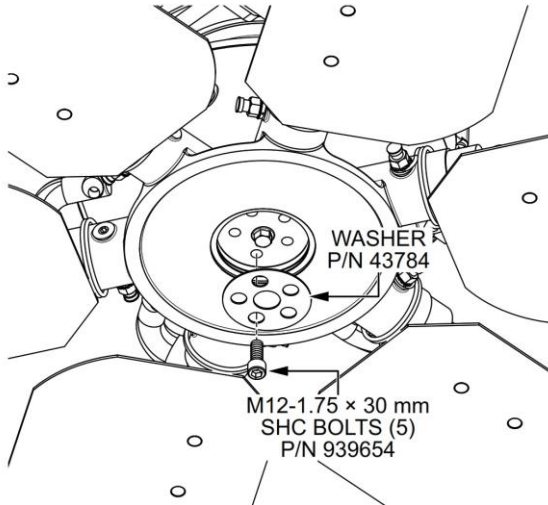

Figure 9. Install New Bolts and Washer
6. Install the five new M12-1.75 x 30 mm SHC bolts (P/N 939654) with one washer (P/N 43784) as shown in Figure 9. Torque the bolts in a star pattern to 40 lbf-ft.